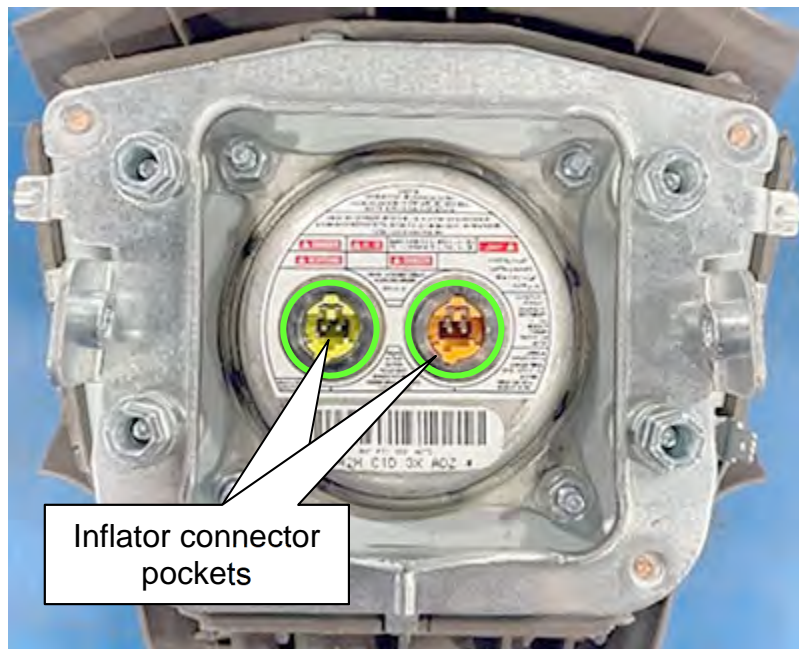

Figure 35
36. Visually inspect inflator connector pockets for debris, bent pins or shorting clip damage (Figure 35).